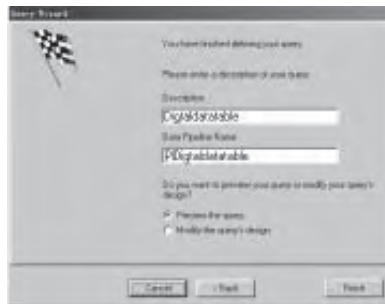
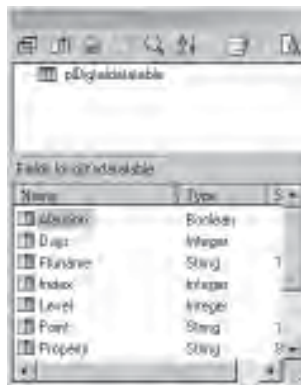

Fig. 8-11 Last Step of Selecting the Listing Tables
Fig. 8-12 The Completion of Selecting Listing Tables
2.8 Click the **Finish** button as in Fig. 8-11. Then the listing table of the database that has been set will be displayed as in Fig. 8-12.